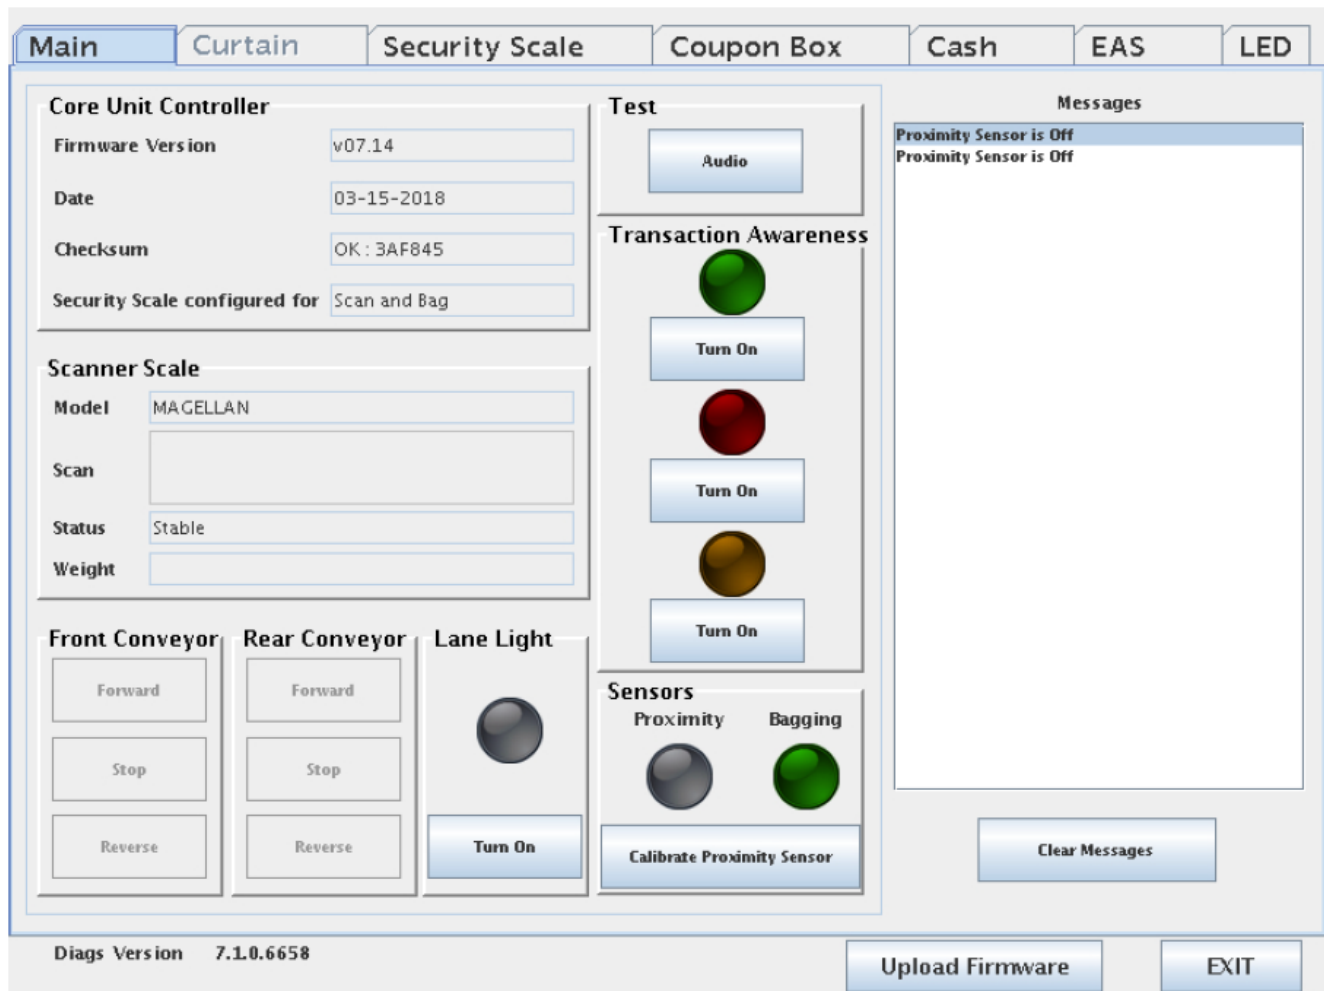

Figure 44. Lane diagnostics Main tab
4. Once initialization finishes, the Lane Diagnostics Main tab opens (see Figure 44).
1. From the Lane Diagnostics Main panel, touch the appropriate button in the transaction awareness box. The indicators above the buttons are color-coded to match the transaction awareness lights. Refer to Figure 44.
1. From the Lane Diagnostics Main panel, touch the button in the **Lane Light** box. Refer to Figure 44. The indicator above the button should respond to the command in the same fashion as the lane light assembly.